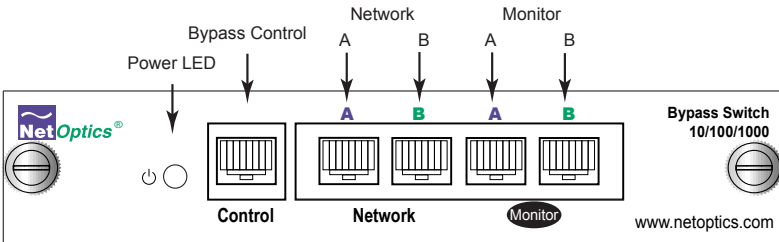

Figure 2: Front Panel BP-CU3-RJ45
1. Connect the power supply's RJ45 connector to the Bypass connector on the front panel (see Figure 2 on page 2).